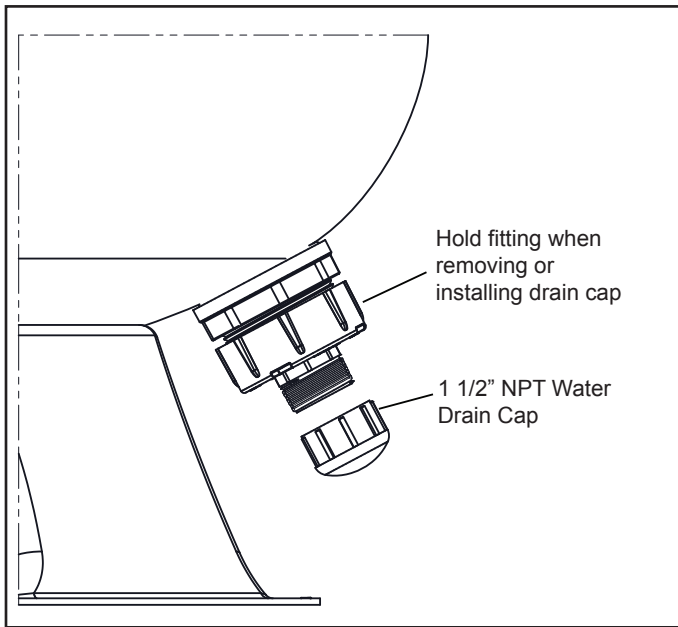

Figure 7. Water Drain Cap
13. Connect the pipes using the unions supplied with the filter. **Do not use Teflon® tape or pipe dope on any unions.** Assemble the unions dry and hand tighten. See Figure 7.
14. Any piping with a ball valve that may be connected to the water drain at the bottom of the filter tank must be removable to facilitate the further removal of drain components to allow space for the flushing of sand from the filter. See Figure 7 for water drain cap location.